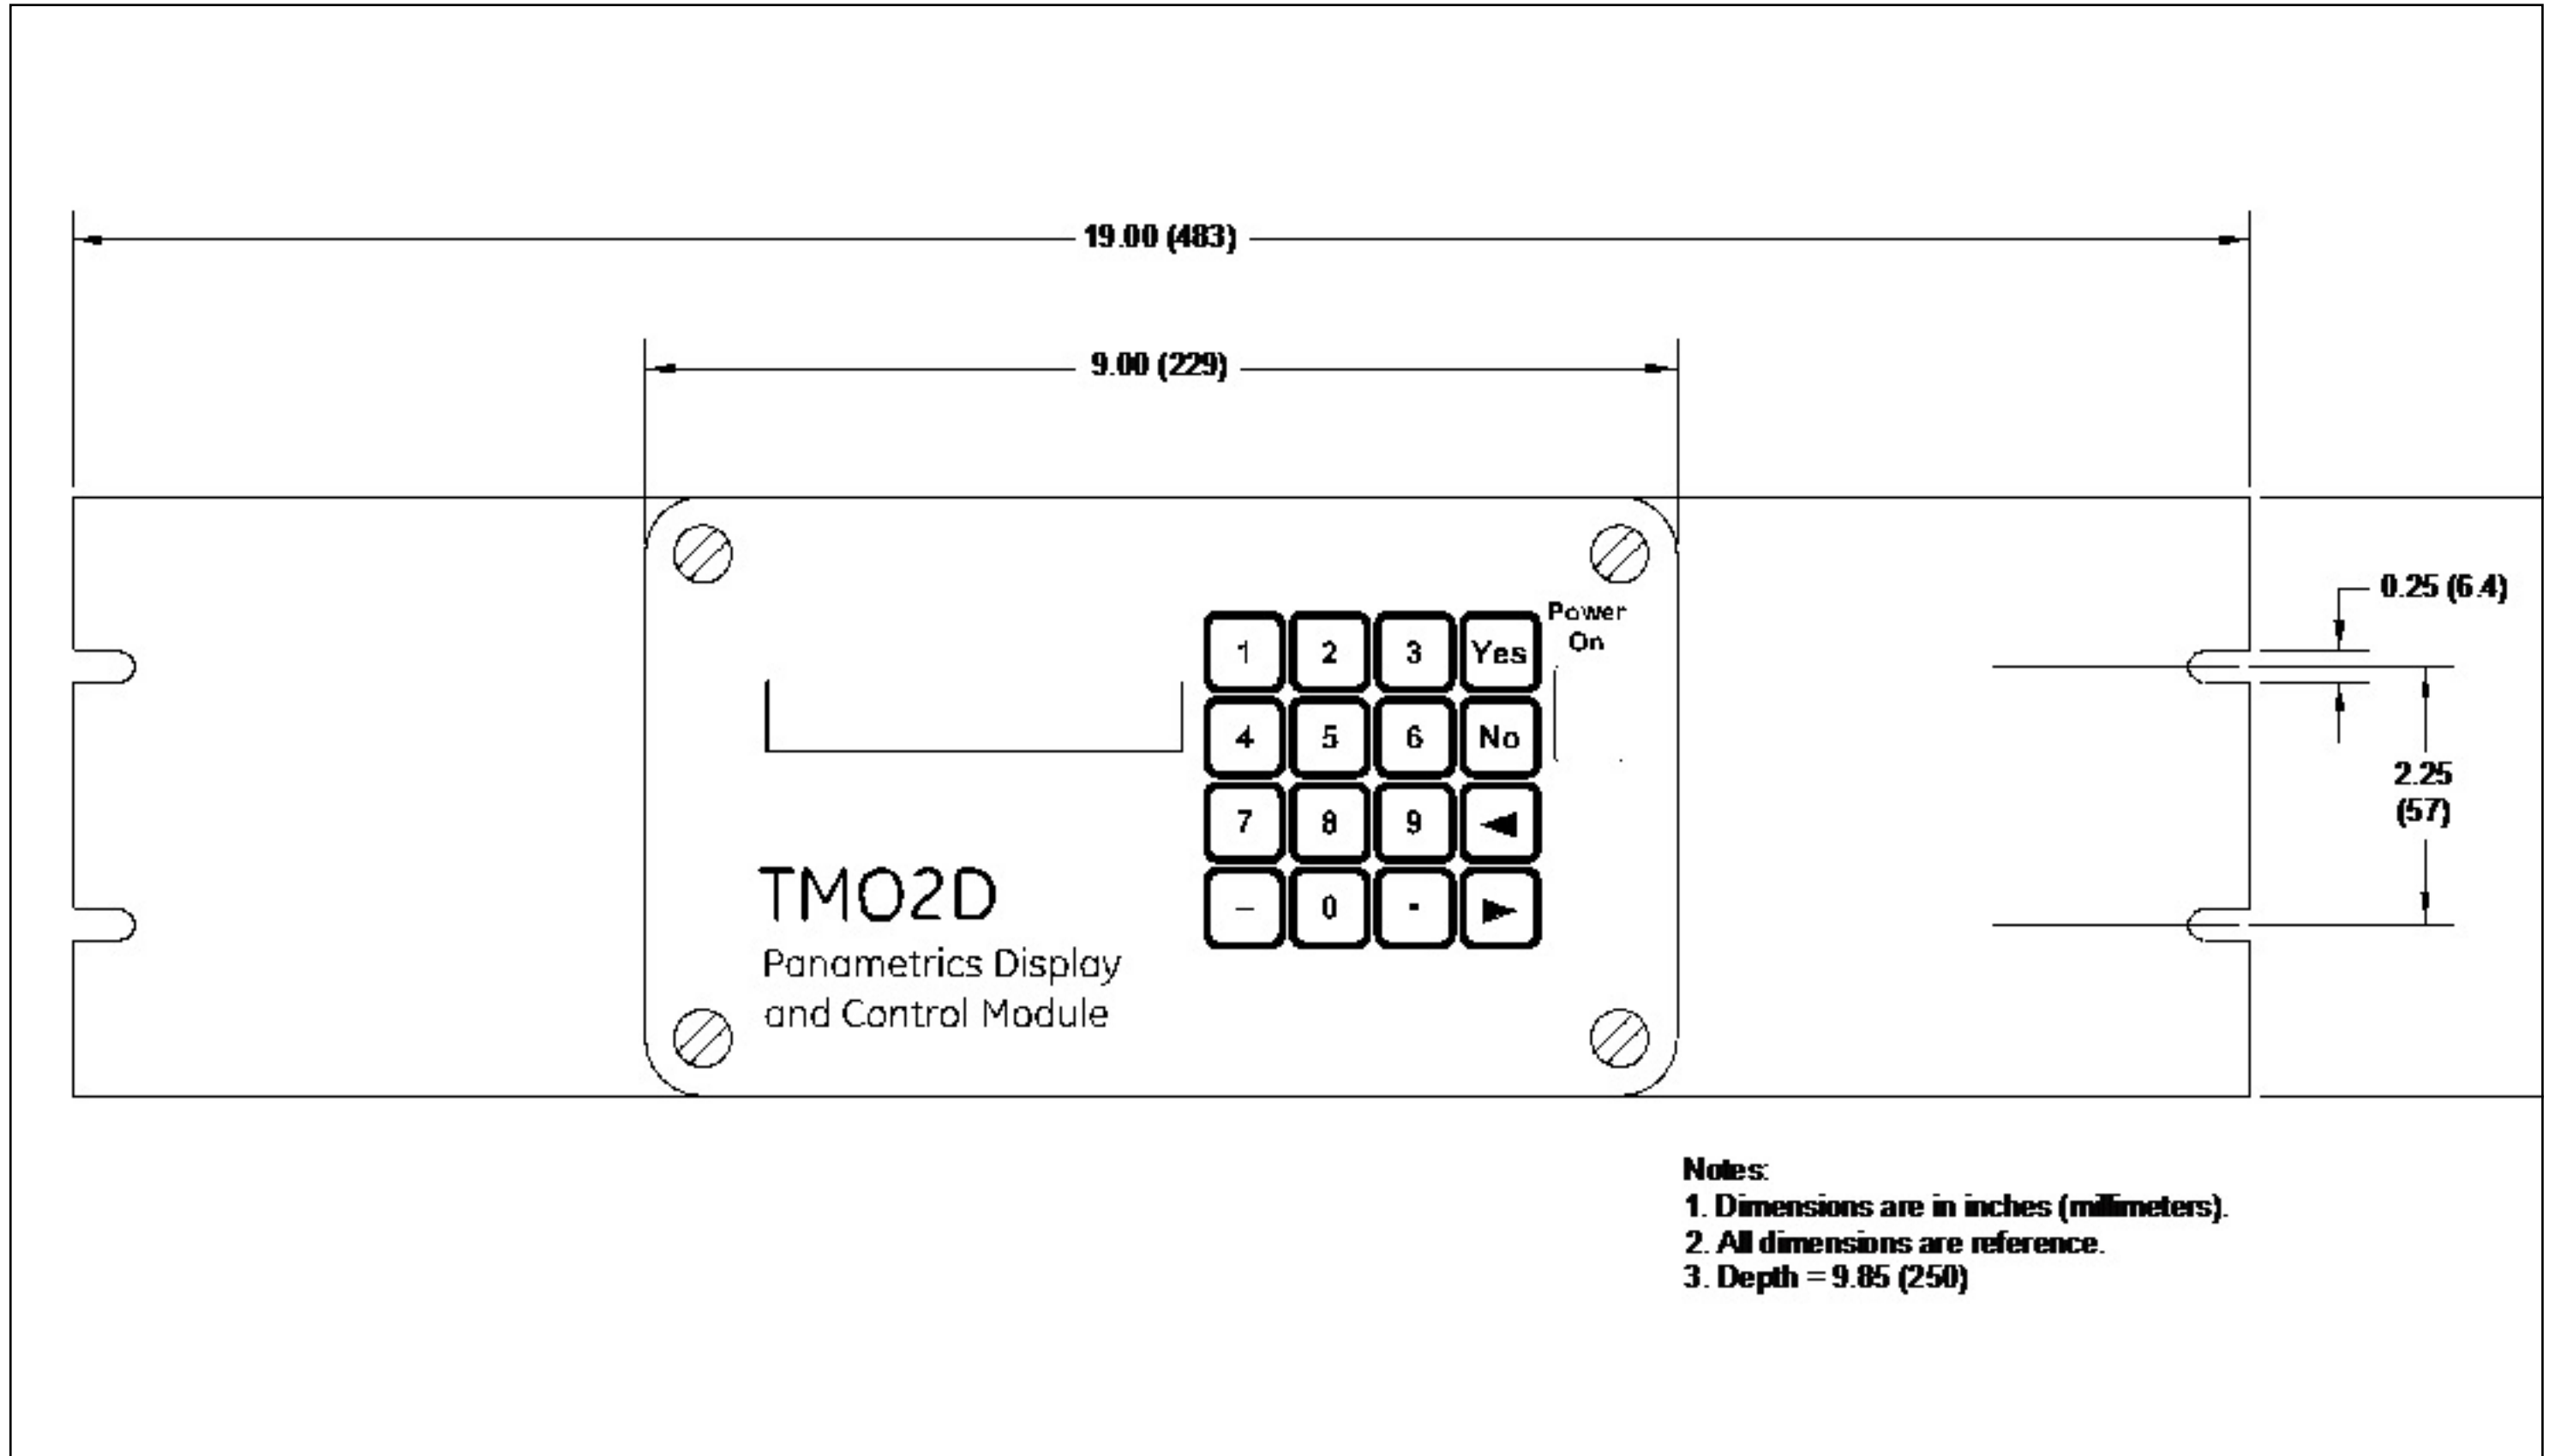

Figure 16: Rack Mount Outline (ref. dwg #712-220)
- Figure 16: Rock Mount Outline